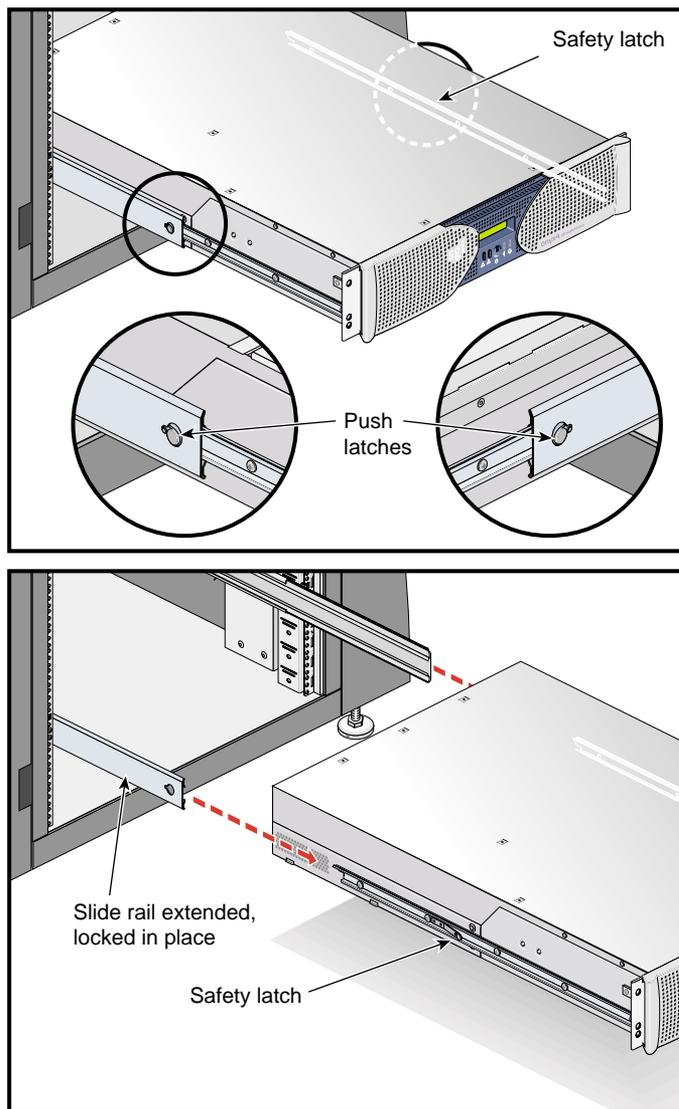

Figure C-10 Releasing the Safety Latches
5. With one person holding each side, release the safety latches on both sides of the brick and pull the brick out of the slide rail (see Figure C-10).